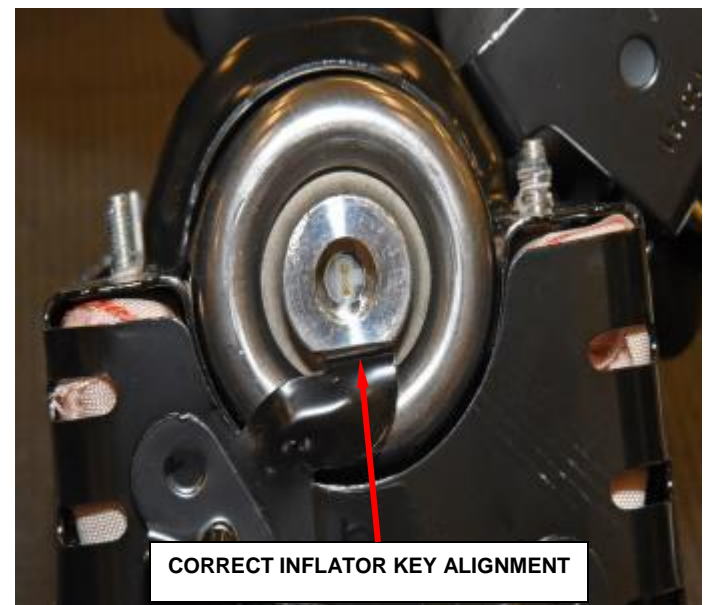

Figure 86 – Check for Inflator Key Alignment
- k. Ensure that the inflator's key is still lined up with the housing's key (Figure 86).